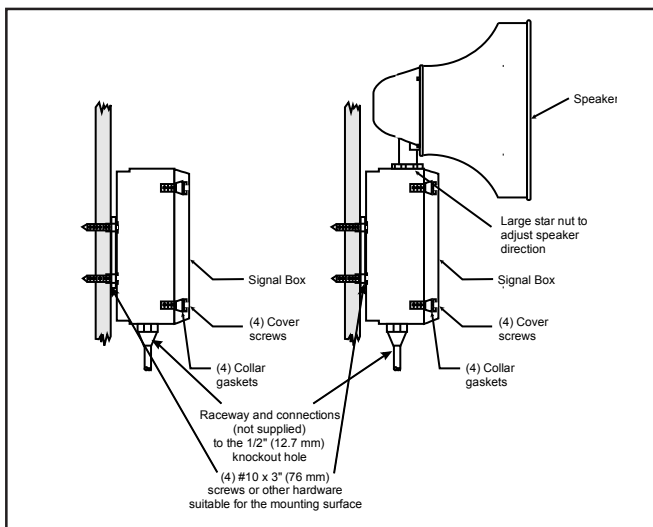

Figure 3. Adaptatone Mounting
1. Mount Adaptatone as shown in Figure 3.
- a. **Flat Surface Mounting.** Secure unit to mounting surface using the (4) mounting holes in the mounting plate on the rear of the box. Use the #10 x 3" (76 mm) wood screws (furnished loose) or other hardware (not supplied) suitable for the mounting surface.
- b. **Rigid Pipe Mounting.** Loosen the (4) cover screws from the signal box and lift off signal box cover.
7. To adjust speaker direction, loosen large star nut (Figure 3) and turn speaker to the approximate desired position. Retighten nut and turn speaker slightly clockwise until locked into place.